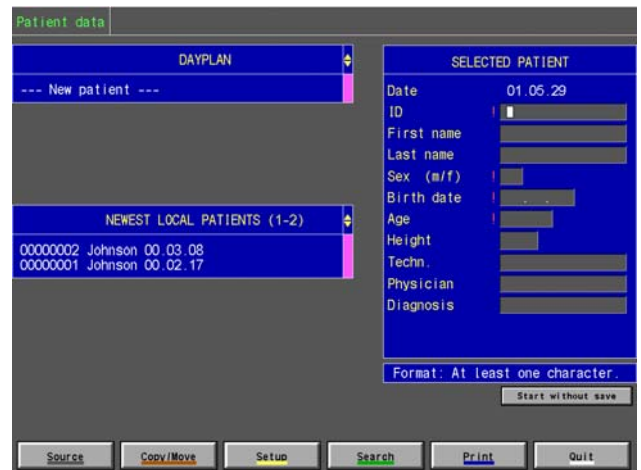

Figure 60 The Patient Data Window
- Enter the patient data in the Selected Patient box. All the boxes marked with an "!" have to be filled in at a minimum, otherwise the program cannot proceed, see Figure 60 above.